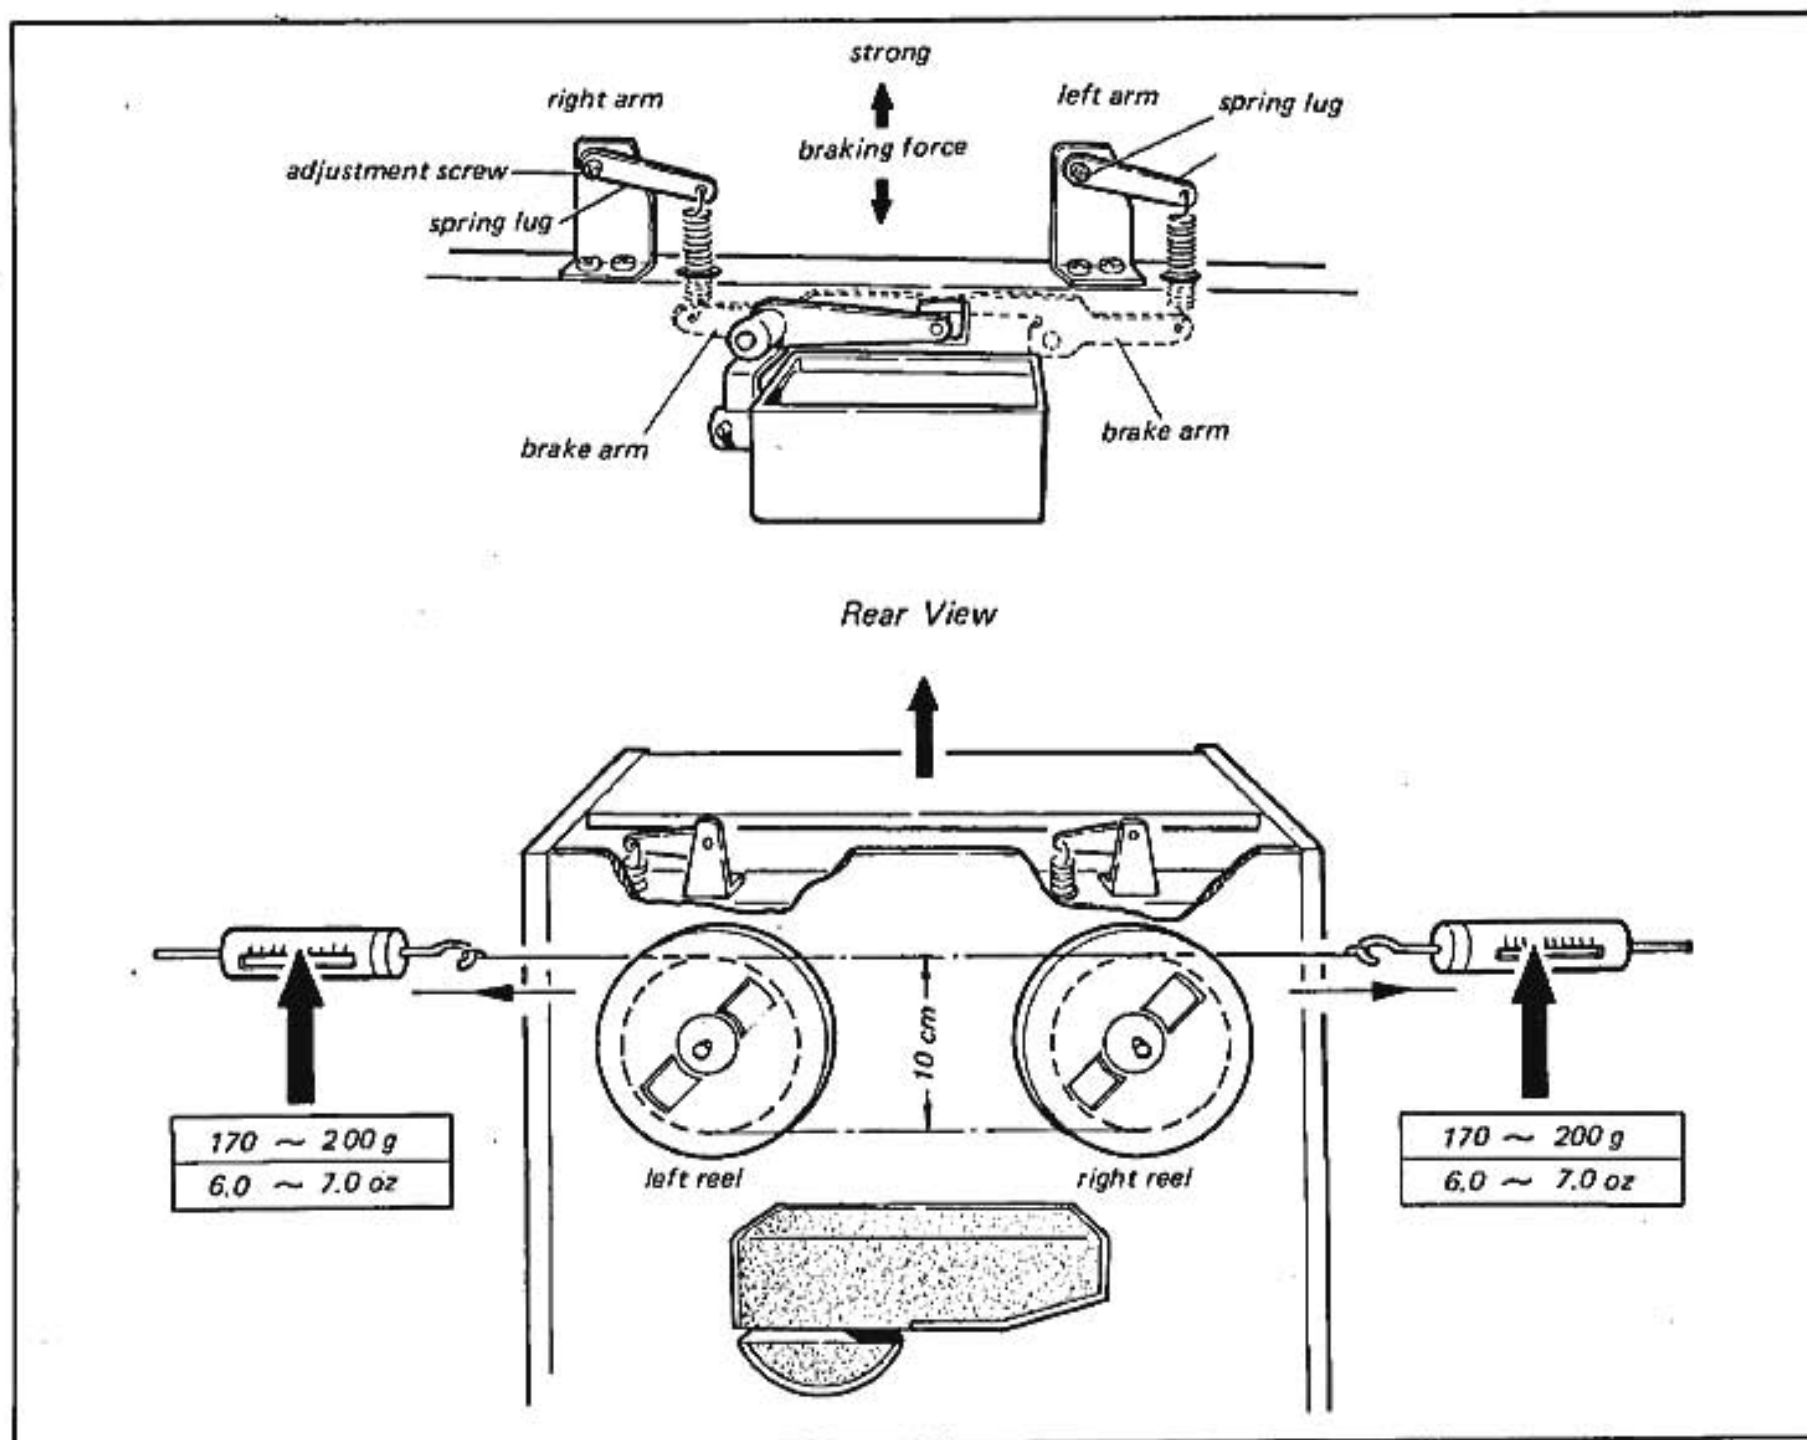

Fig. 6-4 Brake torque adjustment
(See Fig. 6-4)
- 1) Place two empty reels (with 10 cm hub diameter) and two spring scales as shown in Fig. 6-4.